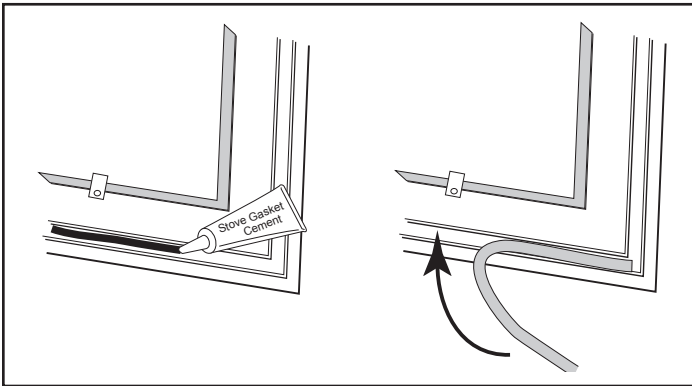

Figure 3.5 - Lay a bead of gasket silicone or cement then press gasket in place.
5. Lay an unbroken 1/8" (3 mm) bead of silicone or cement in the newly-cleaned channel. (Figure 3.5)
6. Starting at one end, press the gasket into the channel. (Figure 3.5) Ensure a good joint where the gasket meets before trimming any excess. Do not overlap the gasket ends or leave ends with ragged edges.